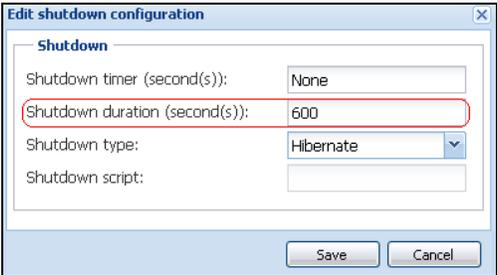

Figure 124. Edit Shutdown Configuration Dialog Box
- The IPM default configuration is available from **Settings > Shutdown > Edit Shutdown Configuration** (see Figure 124).